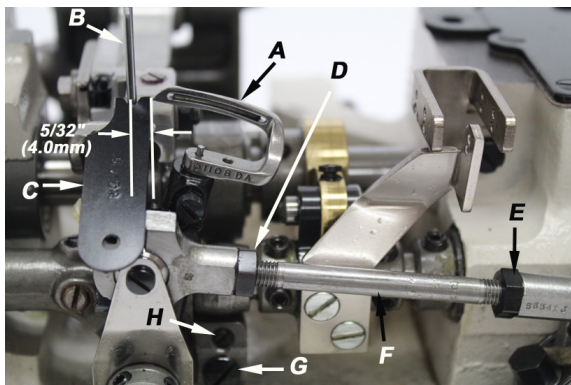
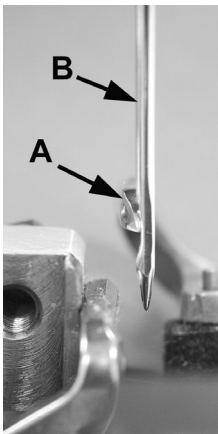

Fig 6
Fig 7
Insert a new needle, type and size specified. Looper gauge is 5/32 inch (4.0mm) which is the distance from point of looper (A, Fig. 6) to centerline of needle (B) when looper is at extreme right end of its travel. Looper gauge No. 21225-5/32 (C) is available for this setting. Adjustment can be made by loosening nut (D), (it has a left hand thread) and nut (E); turn connecting rod (F) as required to attain specified dimension. Hold connecting rod in position and tighten nut (E), then nut (D). NOTE: Be sure that the left ball joint is in a vertical position and does not bind after adjustment.
While turning handwheel in operating direction and the looper (A, Fig. 7) moves to the left, its point should be set to brush but not pick at rear of needle (B). Adjustment can be made by loosening screw (G, Fig. 6), turn stop screw (H) clockwise to move looper towards the rear, counterclockwise acts the reverse. It is suggested to hold looper towards the front while making this adjustment. Tighten screw (G) after adjustment has been made and recheck movement of looper.